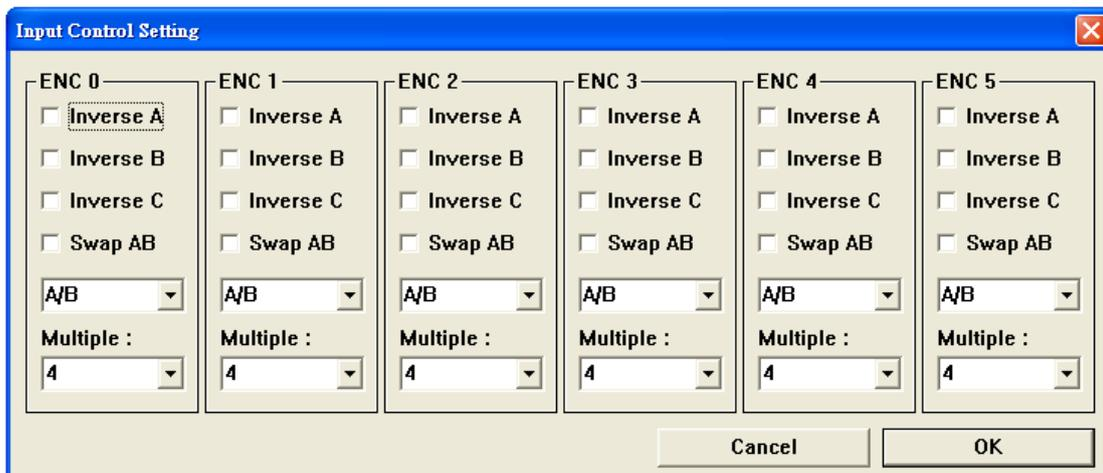

Figure 3-3.3
- B. Set ENC input control (as shown in Figure 3-3.3)
- E. Click Stop (X) after the test is completed.